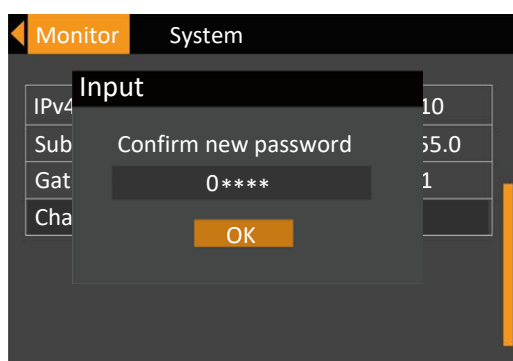

Figure 5-24 Confirming new password
5. After inputting the new password, press the  key to confirm it, then the system requires to confirm the new password, see Figure 5-24.